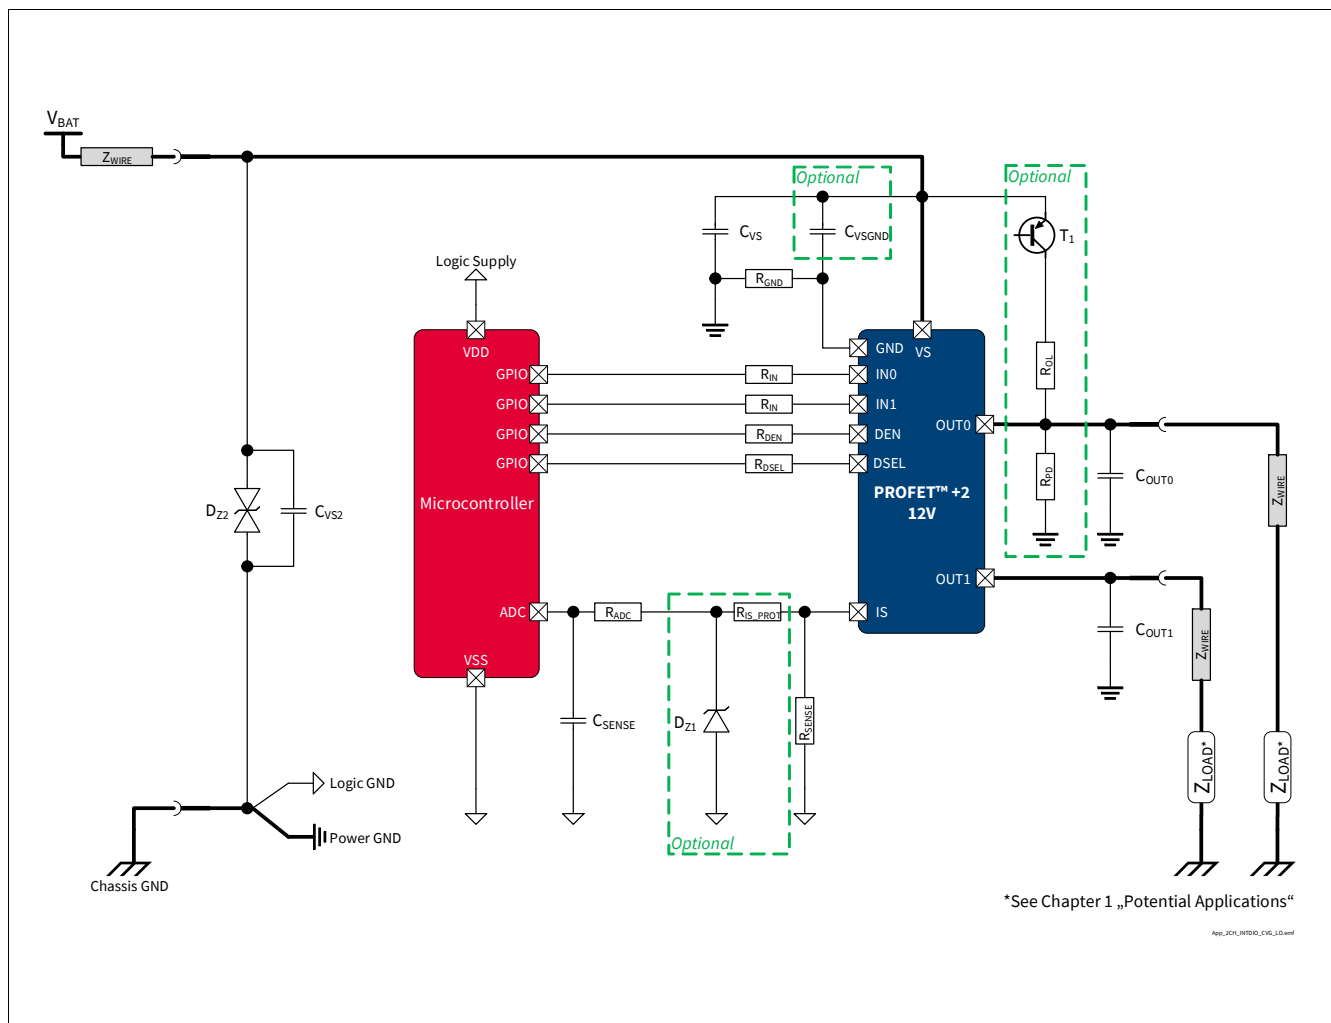

Figure 43 **BTS7010-2EPA Application Diagram**
1.05 , 2019-10-15	P_8.7.2.1, P_8.7.2.7, P_8.7.2.8 updated (added in Note or Test Condition: link to Figure 25) P_7.5.2.4, P_7.5.2.5 updated (added in Note or Test Condition: DEN = "low"; link to Figure 19) P_7.5.2.12 updated (added in Note or Test Condition: see Figure 21) P_8.7.2.6 updated (added in Note or Test Condition: see Figure 26) P_9.7.2.1 updated (added in Note or Test Condition: See Figure 34) P_9.7.2.6 updated (Min./Max.: -45%/+45% → -34.5%/+34.5%) P_9.7.2.9 updated (Min./Max.: -38%/+38% → -25.5%/+25.5%) P_9.7.2.12 updated (Min./Max.: -34%/+34% → -22.5%/+22.5%) P_9.7.2.15 updated (Min./Max.: -22%/+22% → -13.0%/+13.0%) P_9.7.2.17 updated (Min./Max.: -9%/+9% → -8.1%/+8.1%) P_9.7.2.19 updated (Min./Max.: -6%/+6% → -4.6%/+4.6%) P_9.7.2.21 updated (Min./Max.: -5%/+5% → -3.9%/+3.9%) P_7.5.2.11 updated (added in Note or Test Condition: see Figure 19) Figure 1, Figure 43 updated Chapter 1 updated (or LED equivalent → or equivalent electronic loads (e.g. LED modules)) P_4.3.0.7 added Table 24 updated Chapter 5.1 updated (added: see Chapter 10 for the complete application setup overview)